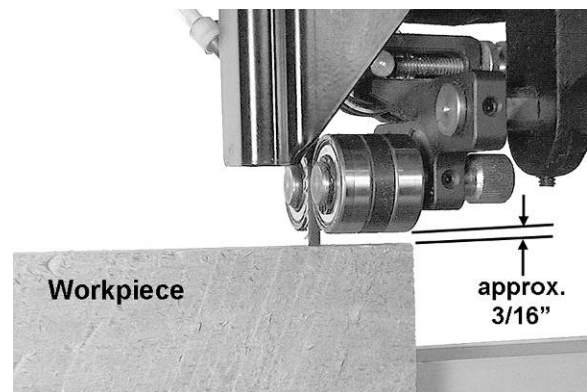

Figure 9-1
4. Adjust blade guide assembly so that the guide bearings are just above workpiece (about 3/16”) allowing minimum exposure to blade. See Figure 9-1.